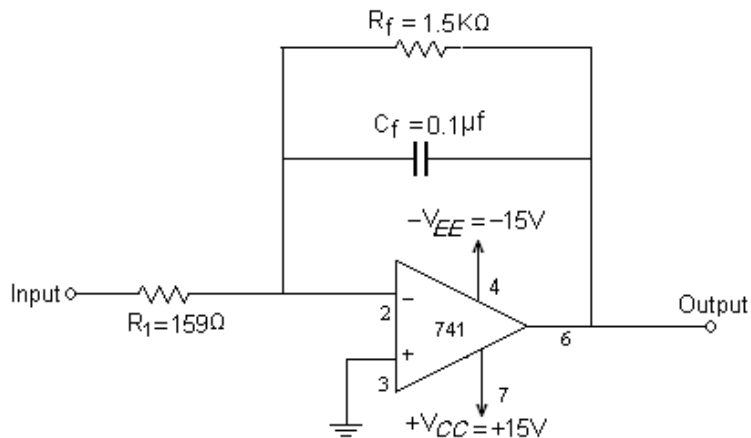

Fig 2: Integrator
- 1 Connect the circuit as per the diagram shown in fig 2